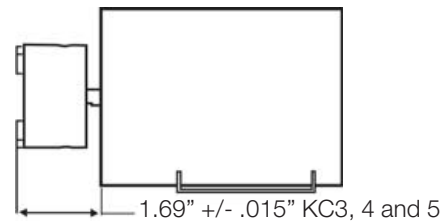

Figure 3
1. Place the impeller assembly (item 2, 2A) over the ceramic shaft in the barrier.
2. Install the o-ring (item 5) on the impeller housing (item 1). Lubricate the o-ring with a compatible lubricant to facilitate o-ring installation.
3. Place the impeller housing (item 1) onto the barrier (item 3) being careful not to dislodge the o-ring.
4. Align the holes in the impeller housing and barrier and install the 8 mounting screws (item 6). Using a screwdriver, hand-tighten screws being careful not to overtighten.
5. If the drive magnet (item 4) was removed, reinstall by sliding drive magnet assembly onto the motor shaft until a distance of 1.69" +/- .015" is measured from the face of the motor to the top of the drive magnet. See Figure 3. Align one set screw (item 4A) with flat on motor shaft and tighten both set screws with 1/8" Allen wrench to 70 in-lbs. (7.9 N-m).